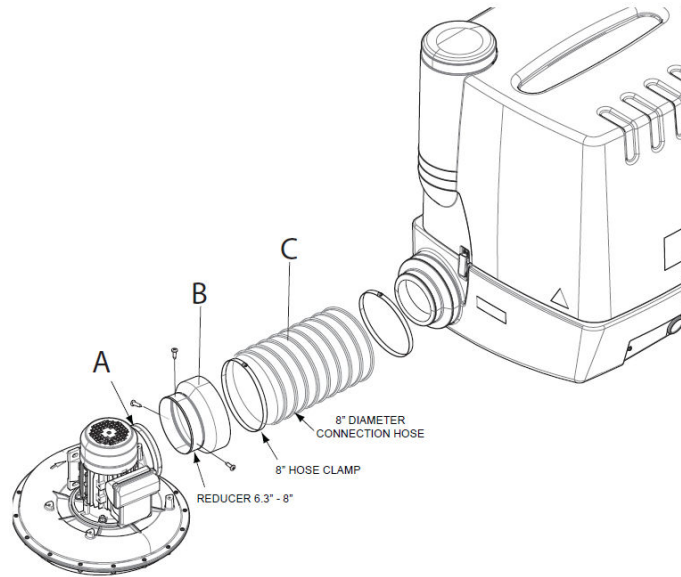
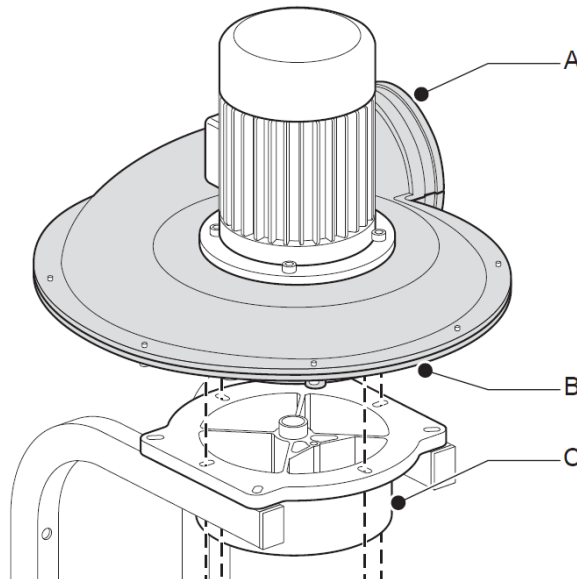

Figure 9 : Prism Wall Mount
Figure 10 : Prism™ 2400 Stationary Fan Mounting
Fit the small (6" diam.) side of the 6"-8" Reducer (See Figure 10, item B) over the outlet of the Prism 2400 Fan (See Figure 9 : Prism Wall Mount on page A-8 , item A); be sure to slide the Reducer all the way over the rubber seal. Secure with three sheet-metal screws through the reducer into the plastic molded fan outlet.
Use the (2) 0.75" bolts and the (2) 2.5" bolts with washers supplied with the fan to mount the fan (See Figure 10 : Prism 2400 Stationary Fan Mounting on page A-8 , Item B) to the rotating hinge (Item C) as shown. Tighten all mounting bolts firmly to make the seal at the inlet of the fan.